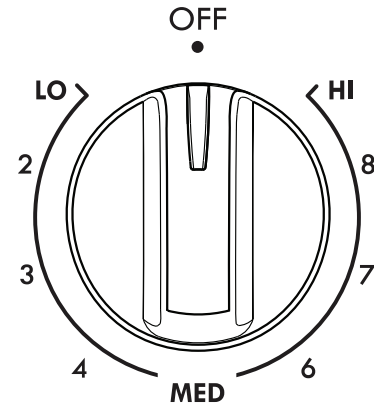

Figure 6: Surface control knob
2. Push in and turn the surface control knob in either direction to the desired setting (see Figure 6).
- The surface control knobs do not have to be set exactly on a particular spot (see Figure 6). Use the graphics provided as a guide and adjust the control knob as needed. Refer to Table 1 for suggested power level settings.